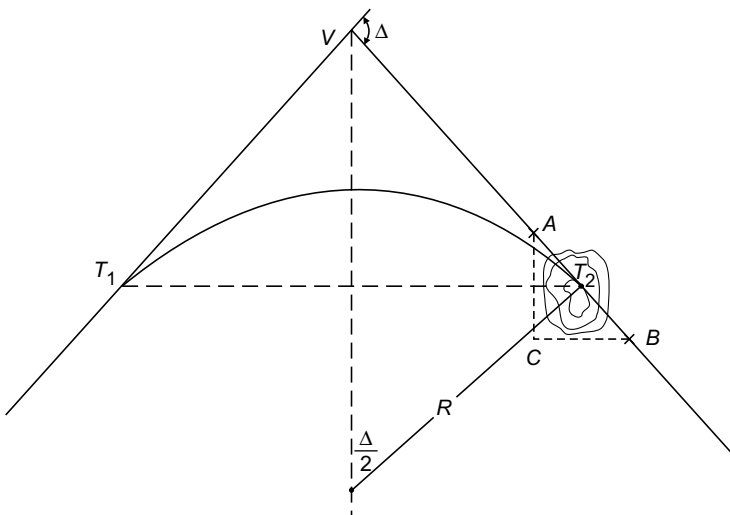

Fig. 2.18
- (c) **Point of Tangency T_2 is Inaccessible:** Fig. 2.18 shows this situation. In this case there is no difficulty in setting the curve as close to the obstacle as possible but the problem continues with the line beyond the obstacle. This problem can be overcome by selecting two points A and B on either side of the obstacle and finding length AB by any one method of chaining past obstacle. Measure VA . Then, chainage of B can be found as shown below: